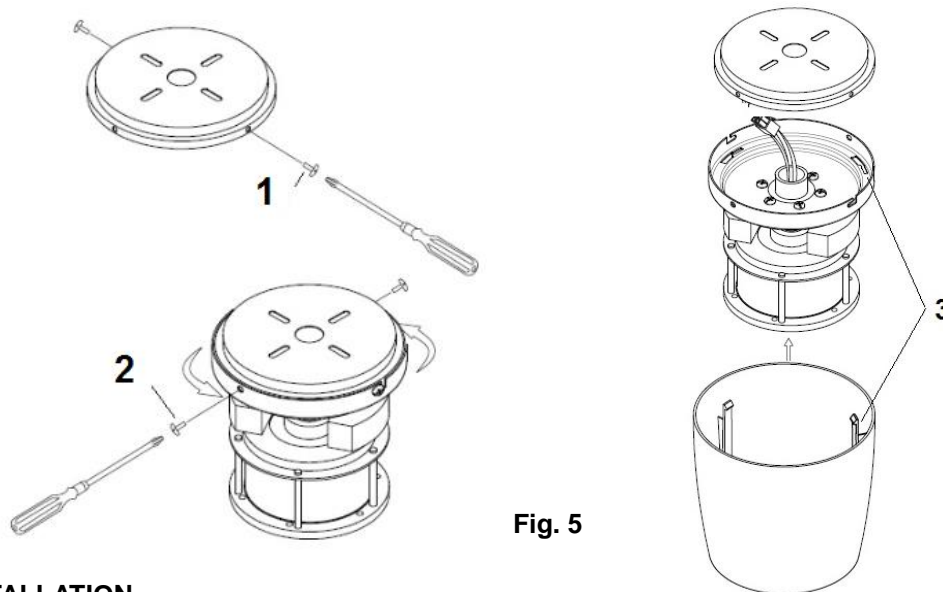

Fig. 5
- Loosen 2 screws (2) from the mounting bracket. **Fig. 5**
- Loosen 2 screws (1) by half thread from the mounting bracket. **Fig. 5**
- Lift the hanging plate of **the** fan assembly up to the mounting bracket and let the L-shape slot on the hanging plate go through the screws (1) on the mounting bracket. **Turn** the hanging plate until it locks in place at the end section of the L-shape slot **and** secure it by tightening the two screws (2). Avoid damaging the electrical wiring prepared previously.
- Finally attach the motor housing to **the** hanging plate and secure it by pushing the hooks (3) into the slot holes and **turn** it anti clockwise.